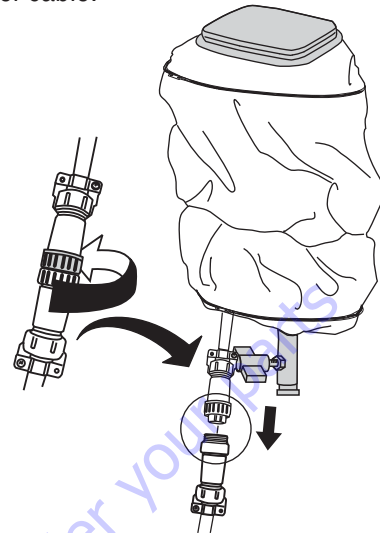

Figure 18. Disconnecting Power Cables
3. Disconnect lamp power connector (Figure 18) from the AC power cable.